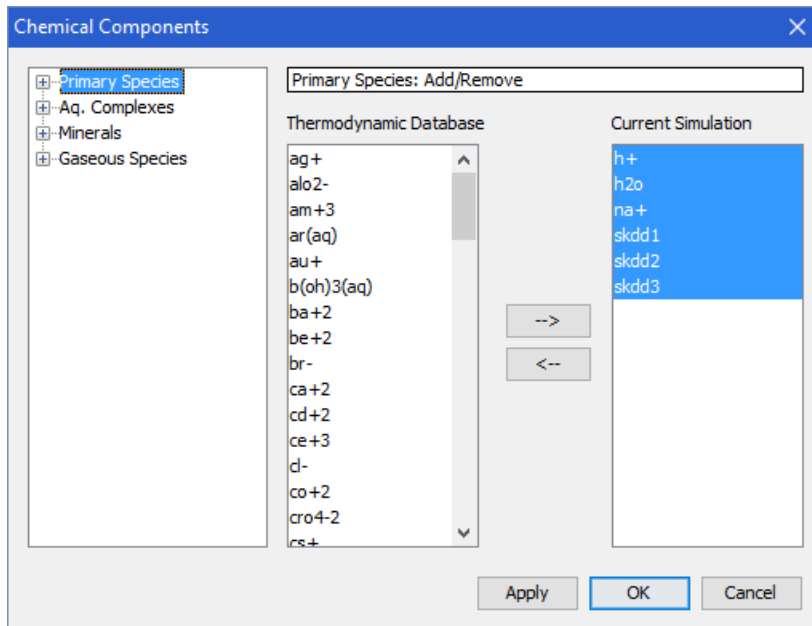

Figure 3: Primary Species
3. Click the --> button to move the selected species into the **Current Simulation** list on the right, as shown in Figure 3.